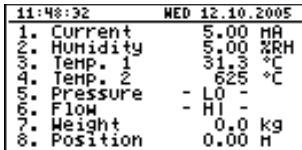

Fig. 6.9. "Channels list" mode (values)
- "**Channels list**" mode (Fig. 6.9, 6.10) enables the measurement results for all active measurement channels to be viewed in numeric or graphic (bar) form.